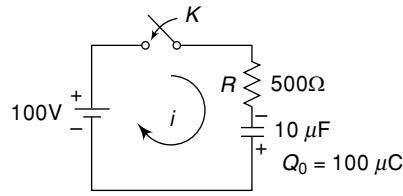

Fig. 1.33 Circuit of Ex. 1.23
1.23 The $10 \mu\text{F}$ capacitor in RC circuit of Fig. 1.33 has initial charge of $100 \mu\text{C}$ with polarities as shown in Fig. 1.51. At $t = 0$, the switch being closed, a dc voltage of 100 V is applied. Find the expression for the current.